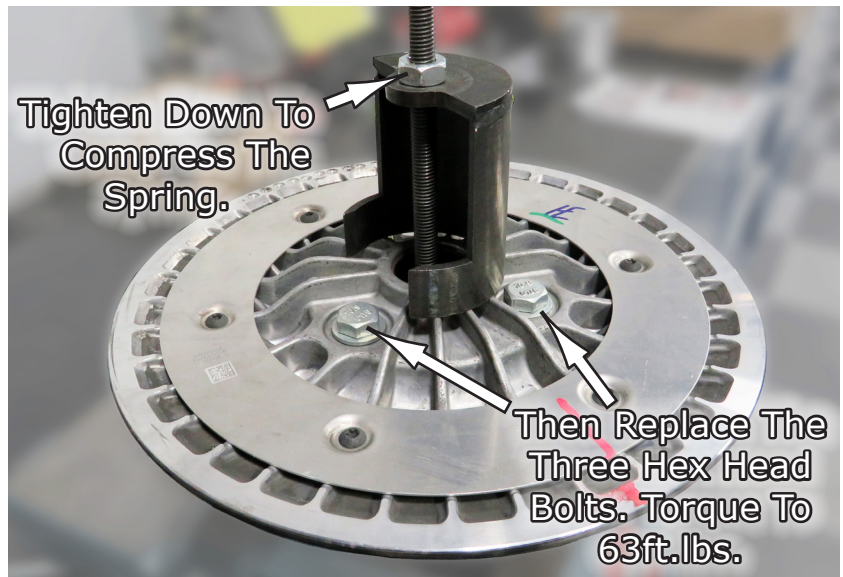

Fig.16
16. Now Compress the top down to compress the spring, and replace the three Hex Head Bolts **using Blue Loc-Tite**, and **torque to 63ft.lbs.** See **Fig.16**.